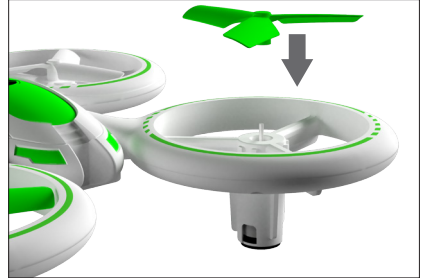

FIGURE 4
- The replacement propeller should have the same rotational direction; place on the correct motor pin, and apply pressure until it snaps into place (Fig. 4)